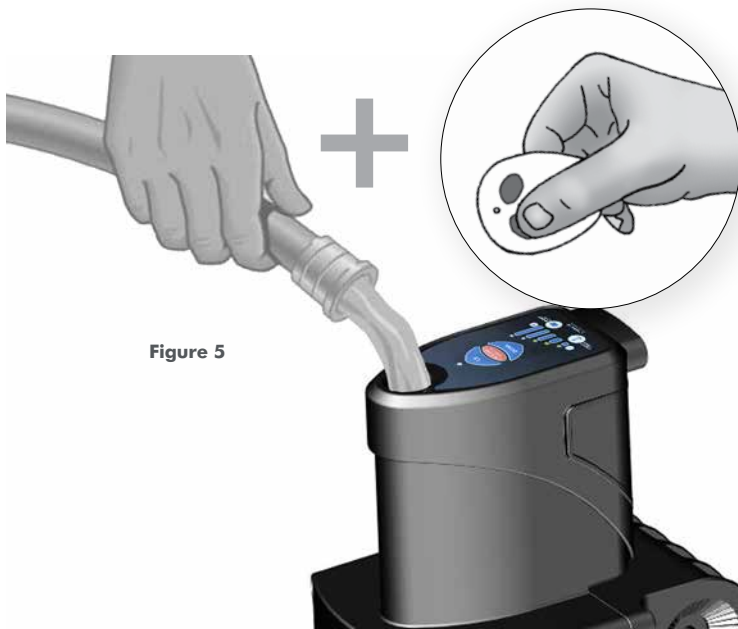

Figure 5
- The MICRO Driver Unit needs to be flushed out with water after each use. **(FIG. 5)**
Driver is making a grinding noise while running	Flush spike pocket with water to remove any dirt that could be causing the grinding noise (FIG. 5)